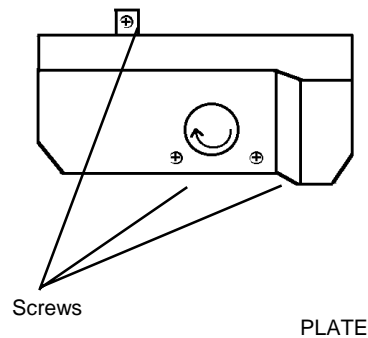

Figure 1. Idler Roll Adjustment Plate Cover.
1. (Figure1) Remove the Idler Roll Adjustment Plate Cover.